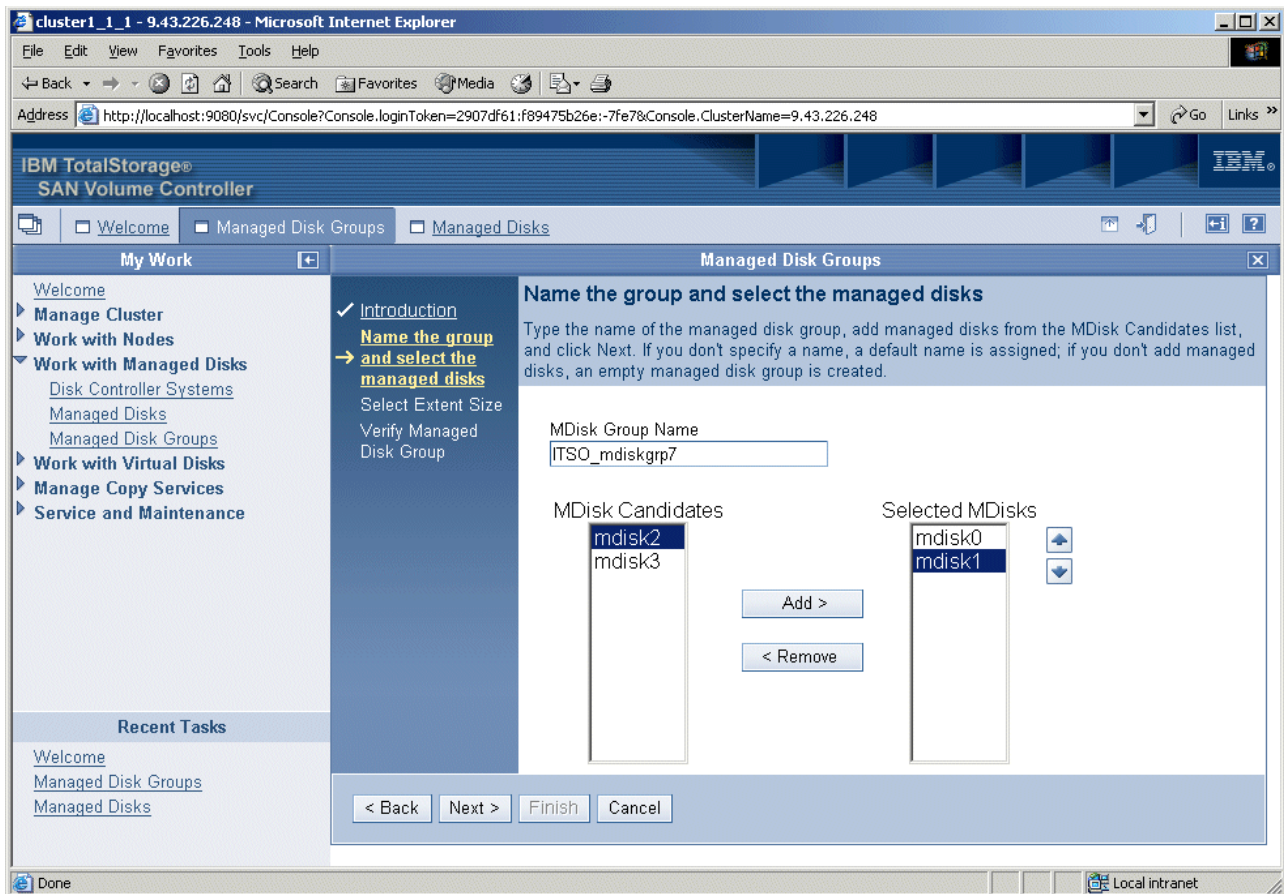

Figure 6-27 Name the group and select the managed disks panel
5. On the Name the group and select the managed disks panel (Figure 6-27), follow these steps: